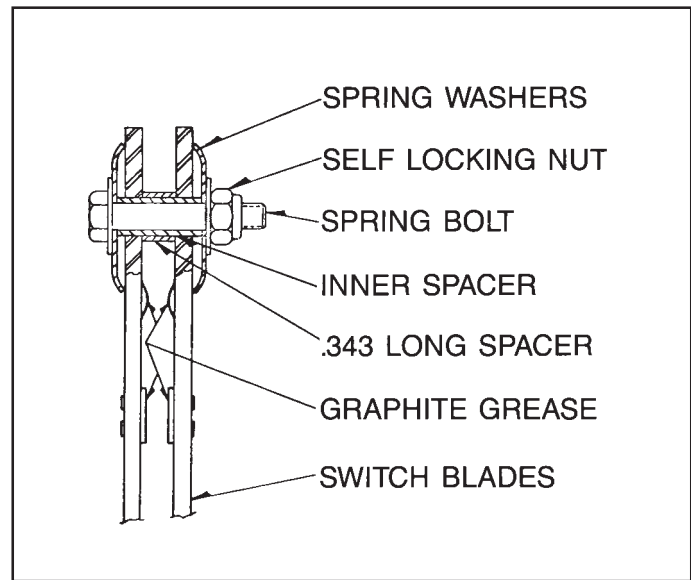

Fig. 7 Main Contact Assembly
7. Contact force at the hinges and main contacts is provided by spring washers which are held in compression by spring bolt assemblies. See Figure 7. The spring bolts are fitted with self-locking nuts which do not require jamming solid to remain in place on the bolts. Tighten these nuts with just sufficient torque to provide proper contact force. Be sure the spring bolts are not overtightened, since this may damage the contacts in addition to causing sluggish operation of the switch.
- (a) When the switch is open, tighten the spring bolts just enough to take up the play in the spring bolt assemblies and draw the switch blades down until they touch the .343" (8.7 mm) long spacers mounted on the spring bolt assemblies between the switch blades. The spring washers should not be compressed beyond this point when the switch is open. See Figure 7 for this assembly.